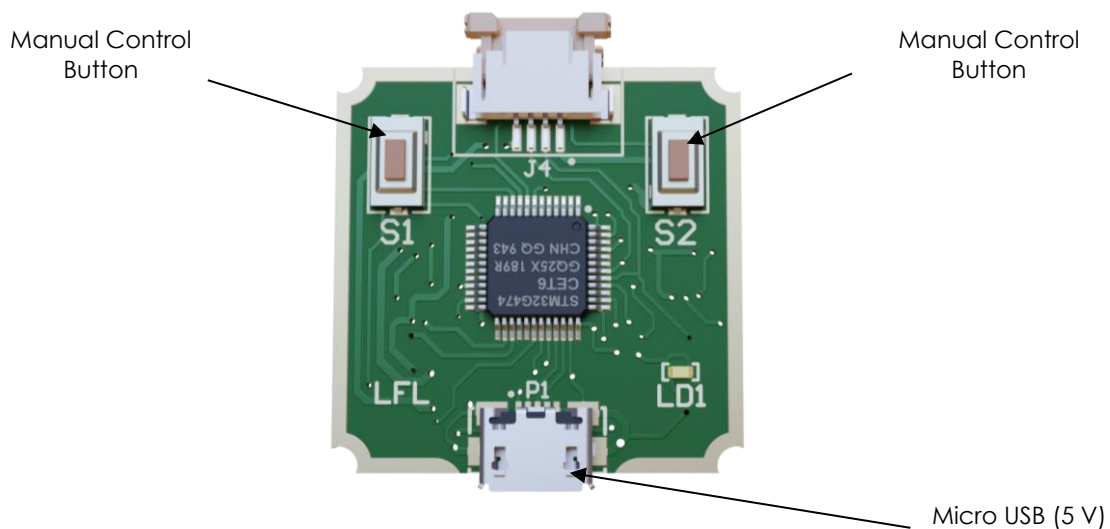

Figure 4. Driver board top view
- i. Connect the Micro USB connector located on the electronic driver PCB to a suitable USB port on the computer, Figure 4.
The electronic driver PCB is responsible for generating the signals needed to drive the piezo actuator resulting in linear movement, Figure 4. S1 and S2 buttons are used for manual motor control; S1 causes movement in Left direction, and S2 enables movement in Right direction.
Use the enclosed “USB to Micro USB adapter Cable” to connect one of the USB ports of your computer to the Micro USB port on the blue driver board, Figure 4. 5V power is automatically supplied to the driver board from the USB port.